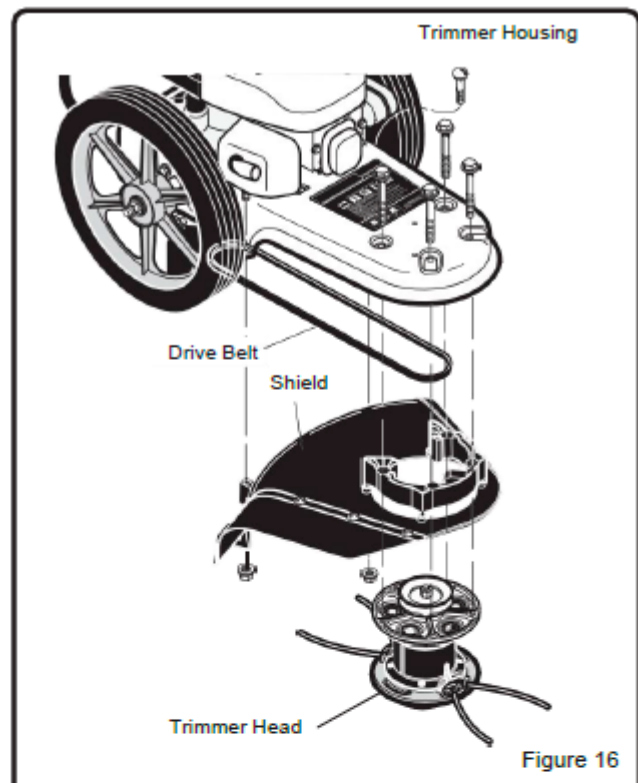

Figure 16
1. Remove the two bolts holding the rear of the guard to the machine (Figure 16).
2. Remove the four bolts holding the front of the guard and the trimmer head to the machine (Figure 16).